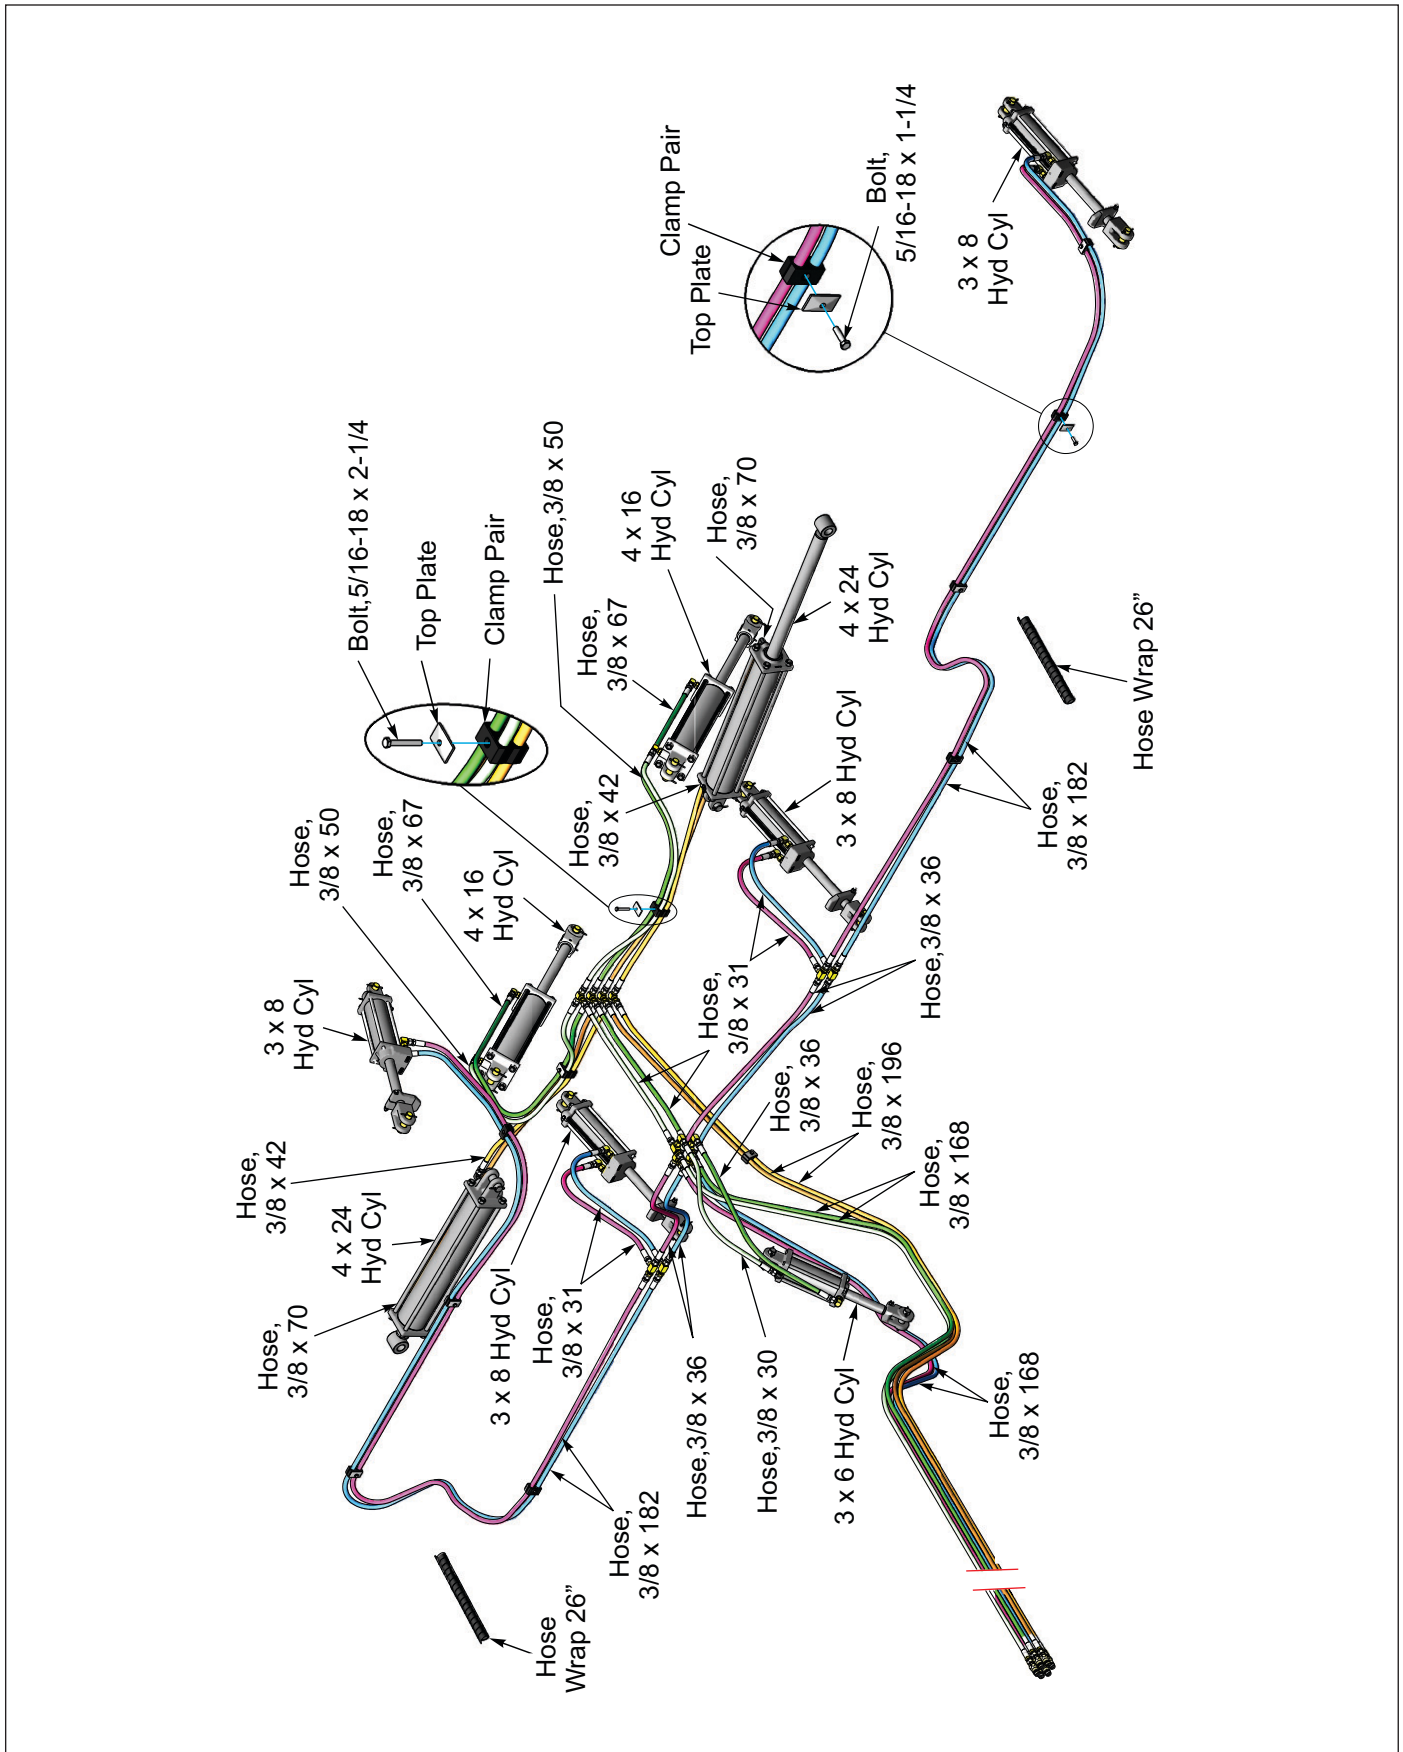

Figure 2-26: Hydraulic Layout (1 of 5)
1. Route the hoses toward the center of the Frame to the Drawbar attaching the hoses to the Frame with Twin Hose Clamps where shown. **See Figure 2-26.** Continue routing the hoses down the center of the Drawbar through the Hose Loops and Hose Holder supports to the tractor.